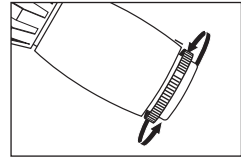

Figure 7
1. All Sightron Fixed and Variable power riflescopes are factory preset for zero (0) diopters or 20/20 vision.
2. Certain models contain the Fast Focus Eyeball (Figure 7) which allows the shooter to adjust their diopter quickly by turning the diopter adjustment located at the end of the eyepiece. All